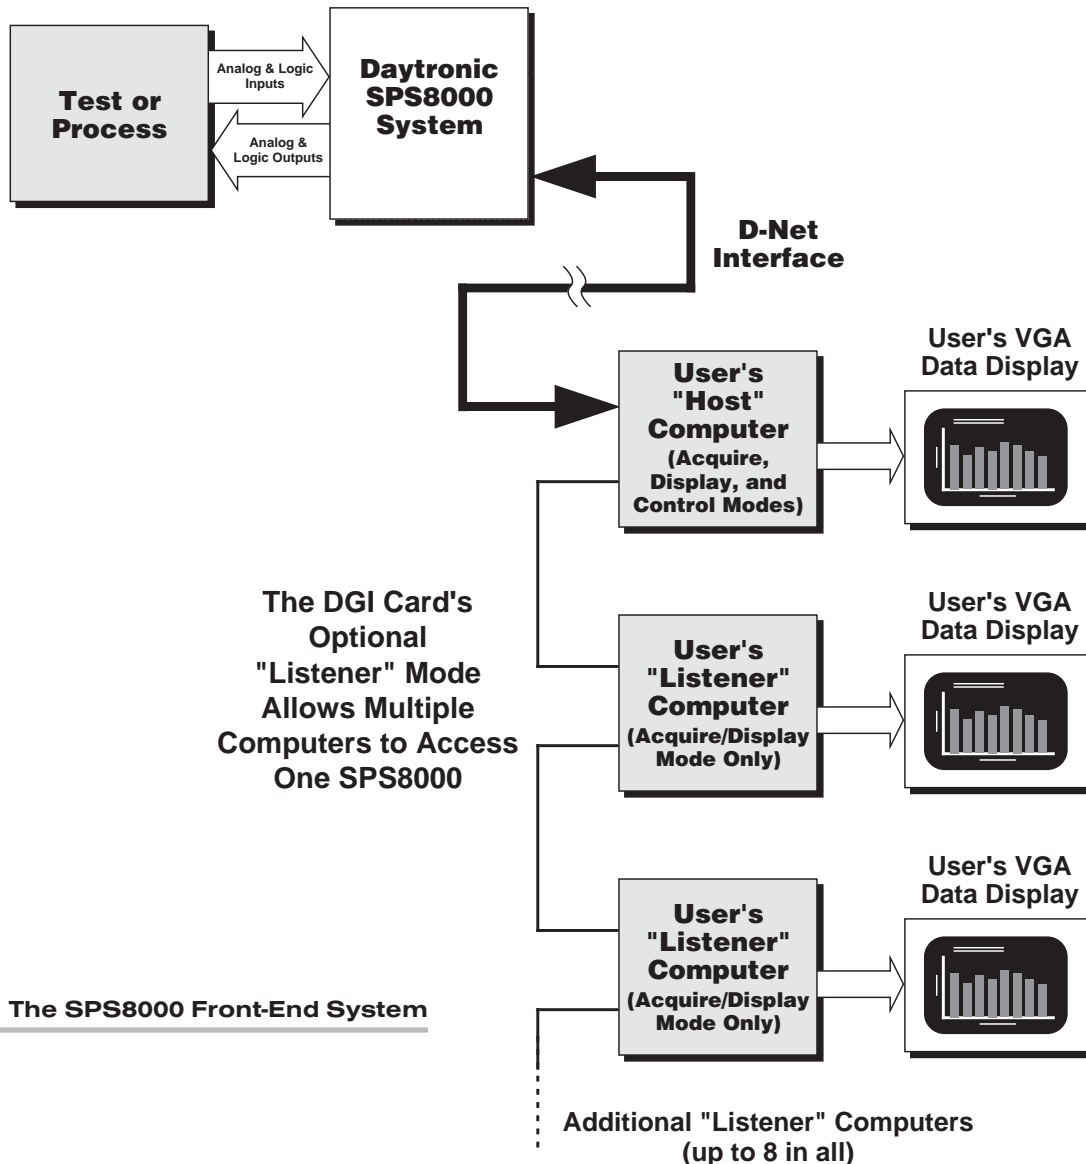

Fig. 1 The SPS8000 Front-End System
- With installation of optional DGI “listener” operating software, multiple computers can be supported from one SPS8000 system. Additional computers, running any SPS8000-compatible software programs, can “listen” to the data acquired by a single SPS8000 system, providing display, analysis, and storage of that data (see Fig. 1).